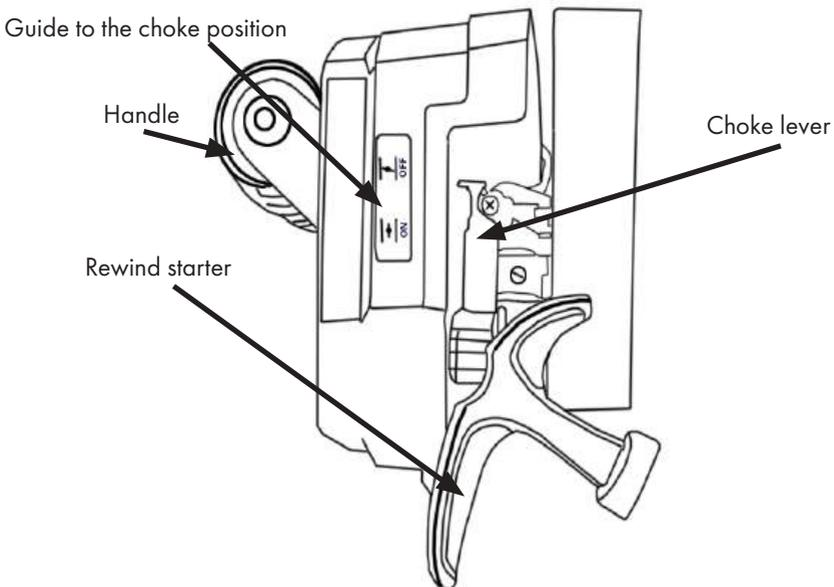

Figure 8
2. Move the choke lever to the closed position to throttle the air and increase the fuel flow. See Figure 8 for information on the throttle position.